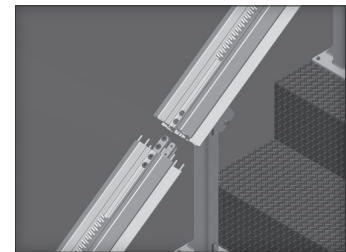

Figure 5-3
**3. If your lift has multiple rail sections, splice them together** using the supplied splice bars and screws. The alignment pins will come pre-installed in one of the rail sections. *[Figure 5-3]*